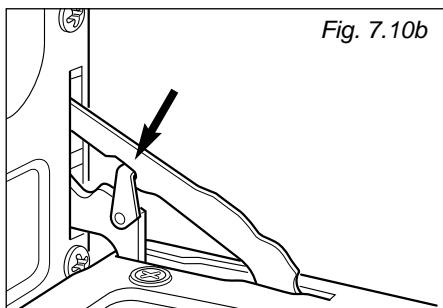

Fig. 7.10b
- Attach the retaining rings to the hooks on the left and right hinges (fig. 7.10B).